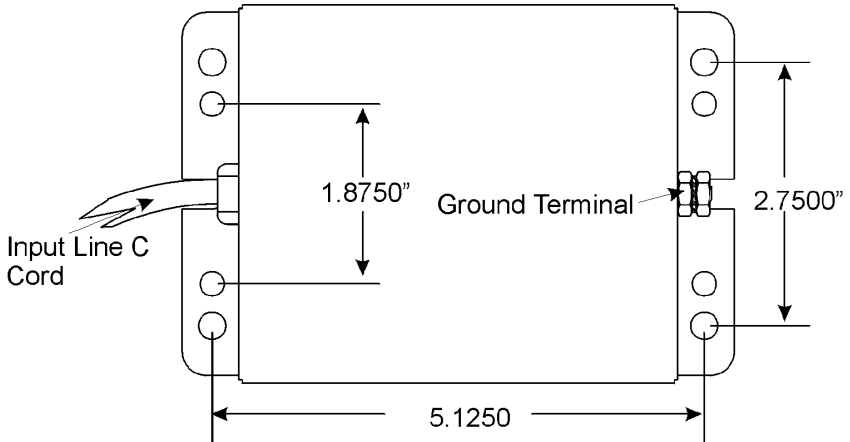

Figure 10. Mounting Holes for "D" Power Supply
3. Drill four 9/32” diameter clearance holes for mounting the power supply using ¼-20 hardware. Refer to **Figure 10** for dimensions between clearance holes.